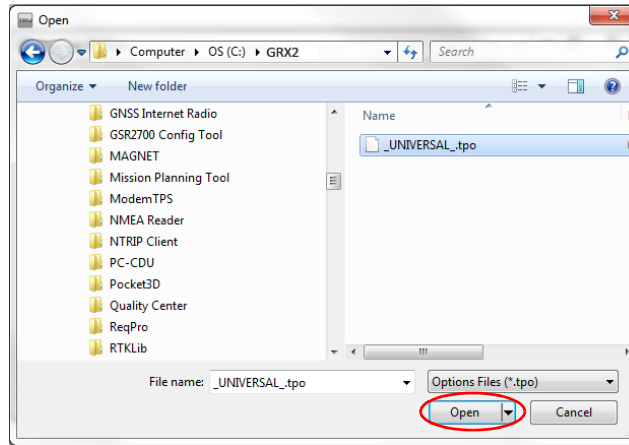

Figure 20: Load OAF
3. Navigate to the location of the new Option Authorization File (Figure 20).
- Select the appropriate file, and click **Open** (Figure 20).